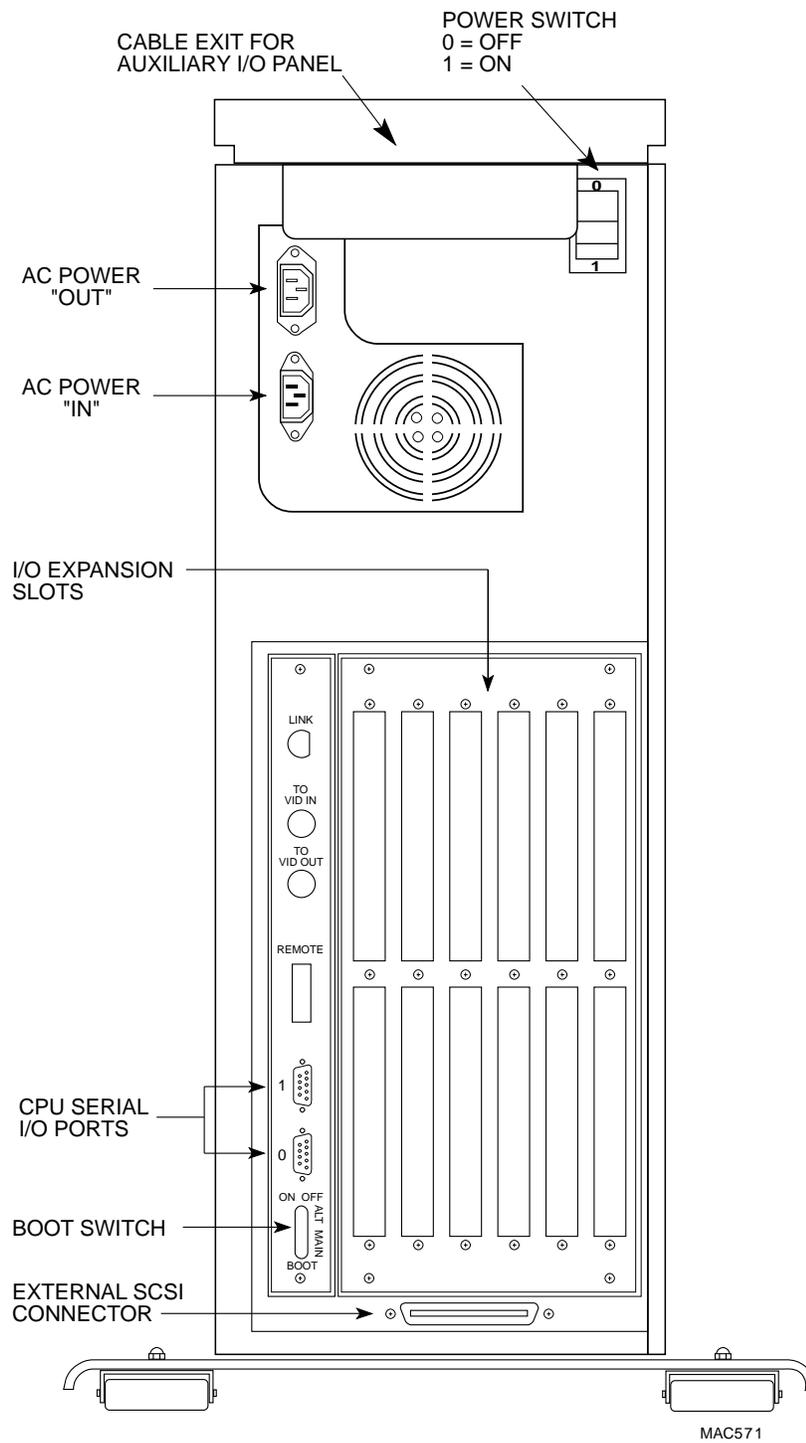

Figure 2-3. SBC Back Panel
2. Place the SBC in the site you have chosen for it. Insert the socket end of the AC power cord firmly over the three prongs in the power cord receptacle located at the upper left hand area of the back panel. (See Figure 2-3.) Then plug the pronged end of the cord into an electrical outlet.